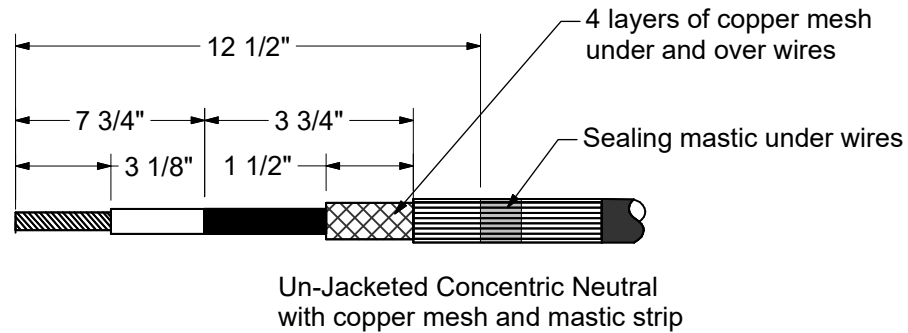

Figure 2
A. Bare concentric neutral cable will be prepared using the dimensions shown in Figure 2.
- After preparing the BCN cable as shown in Figure 2, carefully lift the bare concentric neutral wires and clean the underlying semicon.